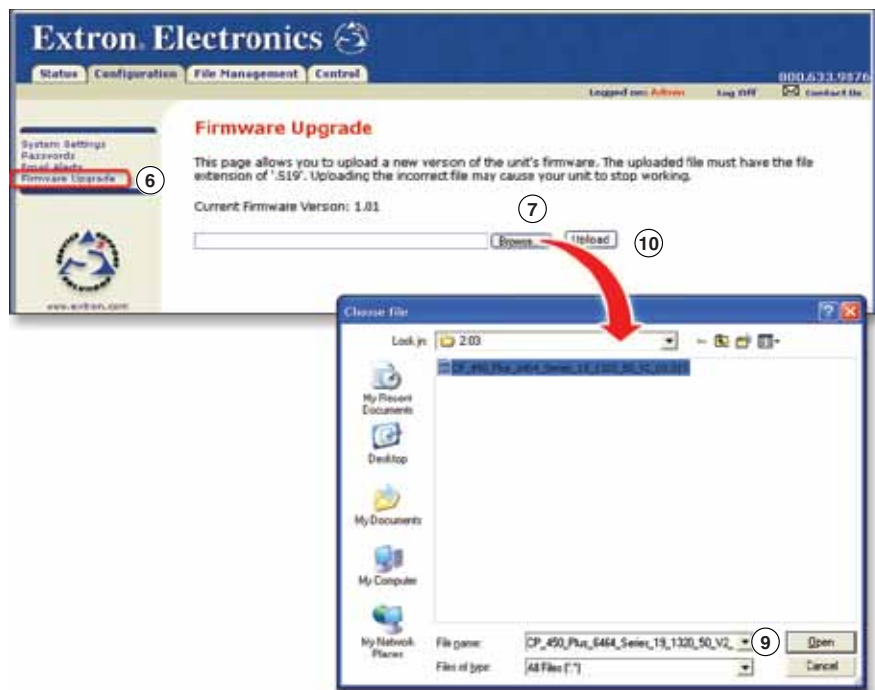

Figure 6-9 — Firmware upgrade
- Click the **Firmware Upgrade** link (figure 6-9).